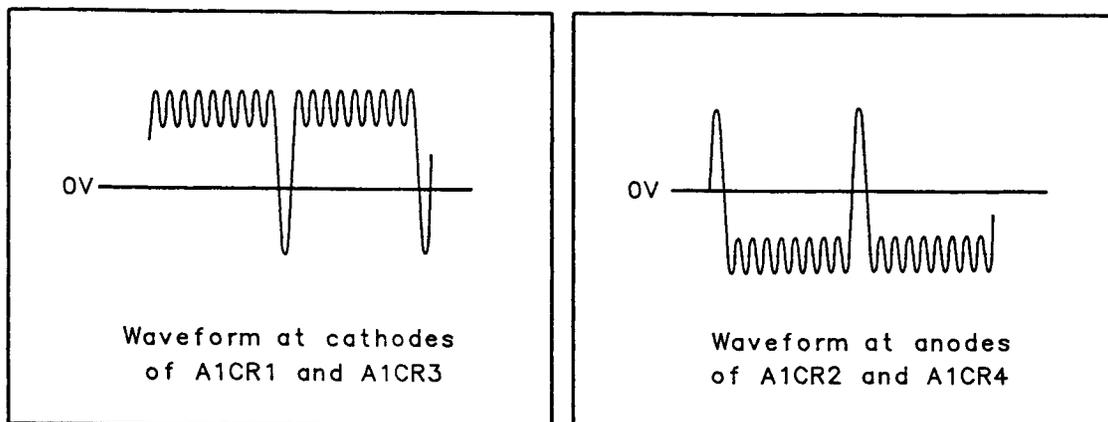

Figure 5-3. Reference-Rate Pulses
The Pulse Generator function block (E) is responsible for the very narrow duty-cycle reference-rate pulses that turn the sampler diodes on and off. See Figure 5-3.
2. Connect a 0 dBm, 10.00000 MHz signal from a synthesizer such as an HP 3325, HP 3335, HP 8662, or HP 8663. (If a house standard is also available, connect it to the synthesizer’s external reference input.) If the PLL error disappears when the external 10.00000 MHz reference is connected to the HP 70310A, there is a problem either in function block (B) of the A1 RF board assembly, or in the A6 Oven/Oscillator assembly.
3. If the PLL error does *not* go away when the external 10.00000 MHz reference is connected, verify that the rear-panel 100 MHz output is approximately 0 dBm. If the rear-panel 100 MHz output power is low, or if there is no output at all, then there is a problem in function block (K) or function block (L) of the A1 RFboard assembly.
4. If the rear-panel 100 MHz output power is correct, remove the module’s right side cover. Then, remove the shield can over the sampler next to A1J4 and A1J5. Use an oscilloscope, and an HP 10017A oscilloscope probe with a spring ground, to verify that there is a 100 MHz sine wave, with an amplitude greater than 0.7 V p-p, at the anode of A1CR1. If the sine wave is *not* present or the amplitude is incorrect, there is a problem in function block (F) or function block (D) of the A1 RF board assembly.
5. If there is a sine wave at A1CR1, verify that there are pulses of opposite polarity at the cathode of A1CR1 and the anode of A1CR2. The pulses should occur at the reference-frequency rate, and should be greater than 5 V p-p. See Figure 5-3. If there are no pulses, trace the signal in the reference path to find the cause.
6. If the pulses are present, check the EXTERNAL REF LED. Connect the signal synthesizer (HP 3325, HP 3335, HP 8662, or HP 8663) to the module rear-panel EXT REF input. Set the synthesizer to 10 MHz at 0 dBm. The EXTERNAL REF indicator on the module front panel should light. If the EXTERNAL REF indicator does *not* light, there is a problem in either function block (A) or (B) of the A1 RF board assembly, or on the A2 Power Supply/Processor board assembly (which controls the internal oven/reference switch). Refer to the EXTERNAL REFERENCE Detector information in the “A1 Diagnostic Detectors” section in the previous pages.
- a. Tune the synthesizer down from 10.0 MHz in 1 Hz steps. At its lowest point, the voltage at A1TP2 should be less than +0.8 V and the frequency of the synthesizer should be less than 9.99996 MHz. If either the voltage or the frequency are incorrect, there is a problem in function block (D), (G), (H), or (L) of the A1 RF board assembly.
- b. Set the synthesizer to 10 MHz again. While monitoring A1TP2 with a DVM, tune the synthesizer up from 10 MHz in 1 Hz steps. At its highest point, the voltage at A1TP2 should be greater than +10.8 V and the frequency of the synthesizer should be greater than 10.00004 MHz. If either the voltage or the frequency is incorrect, there is a problem in function block (D), (G), (H), or (L) of the A1 RF board assembly.
- c. If the frequency is incorrect at either the minimum or maximum point, there is a problem in function block (L) of the A1 RF board assembly.